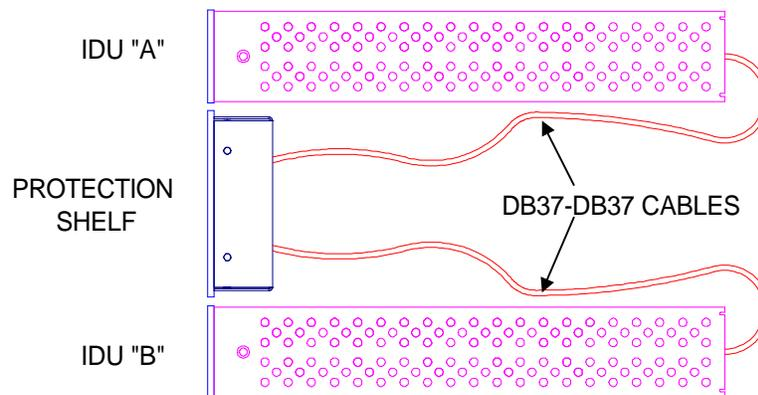

Figure 7-6. DB37-DB37 Connections Between IDUs and Redundant System Controller.
- Connect the DB37-DB37 cable from the upper IDU to the port marked "A" on the rear of the protection shelf. Secure connector with the captive screws provided using a small flatblade screwdriver, as shown in Figure 7-6.
- Connect the DB37-DB37 cable from the lower IDU to the port marked “B” on the rear of the system controller. Secure connector with the captive screws provided using a small flatblade screwdriver, as shown in Figure 7-6.